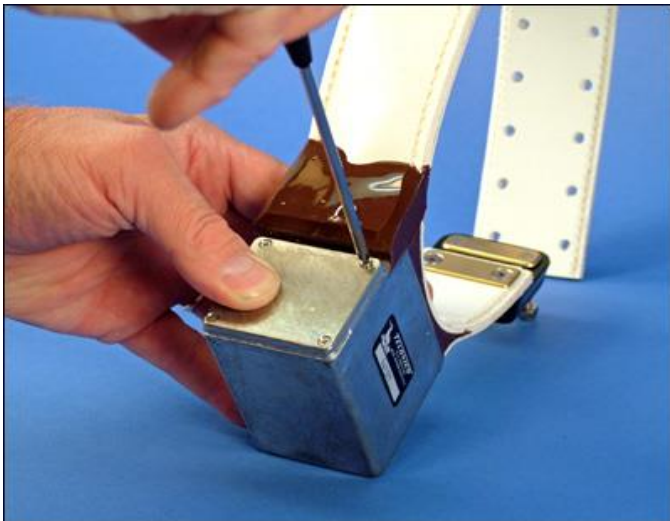

Fig. 1 Removing screws from TGW-4501
1. Clean all dirt and debris from the removable cover plate of the electronics housing. Using a small Phillips head screwdriver, remove the four (4) 2-56 flat-head screws and lift off the cover with attached foam padding from the housing. **(Fig. 1)** Ensure that no debris enters the housing.